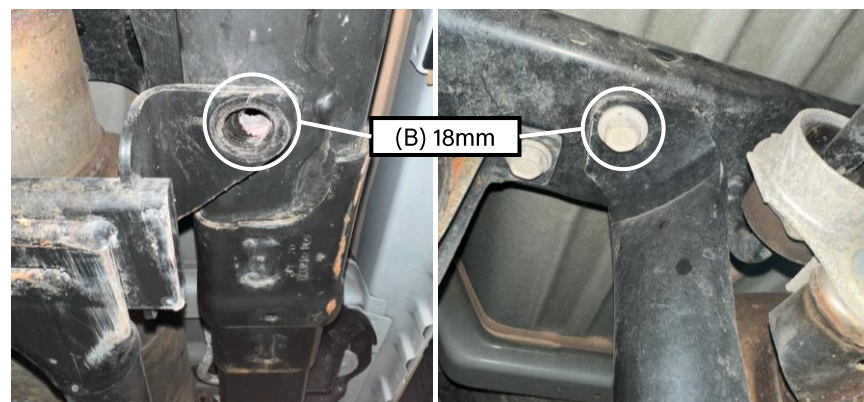

Figure 25: Rear skid plate bolts to remove
- ☐ (A) Remove the x2 transfer case skid plate bolts (x2 18mm)
- ☐ (B) Remove the rear-most exhaust skid plate bolts (x2 18mm, opposite side of gas tank) as seen in Figure 25
- ☐ (C) Remove the x2 13mm bolts holding the exhaust skid to the skid cross member (Figure 25)
- ☐ (D) Fully remove the skid cross member by removing the x2 18mm bolts from both frame rails